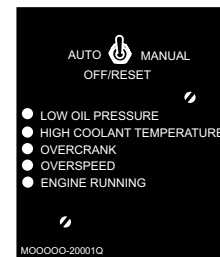

Figure 26. Engine Running (LED ON)
2. Verify that the **engine running** status LED on the MPEC module (Figure 26) is lit (ON) after the engine has started